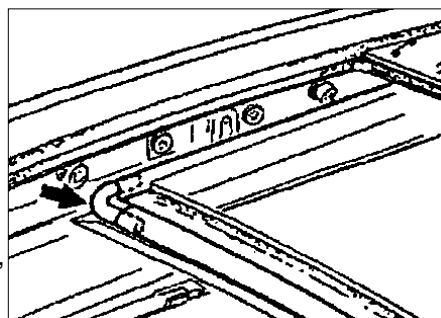

Figure 12
- Close the open ends of the glass roof seal using rubber cord (part number 999 911 088 50) 7mm dia., 45 mm in length (arrow, figure 12).